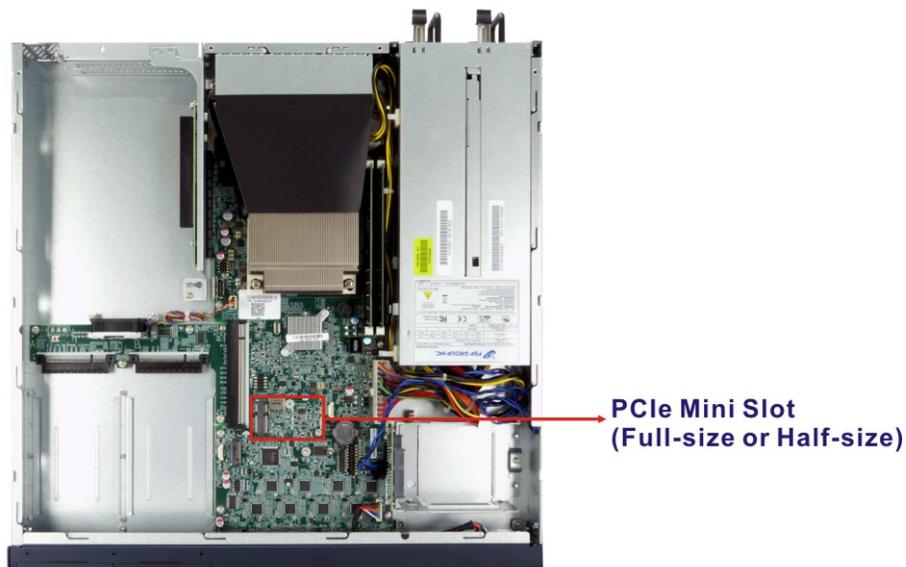

Figure 3-13: PCIe Mini Slot Location
Step 2: Locate the PCIe Mini slot on the motherboard (Figure 3-13).